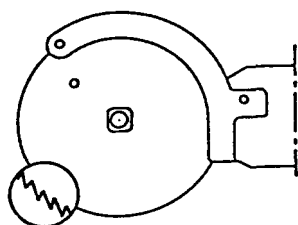

Figure 4: Direction of the saw blade teeth
- Remove hex. clamping nut (M) and saw blade. Place a sharpened saw blade onto the drive square; the teeth must be facing towards the motor on the underside (see Fig. 4).